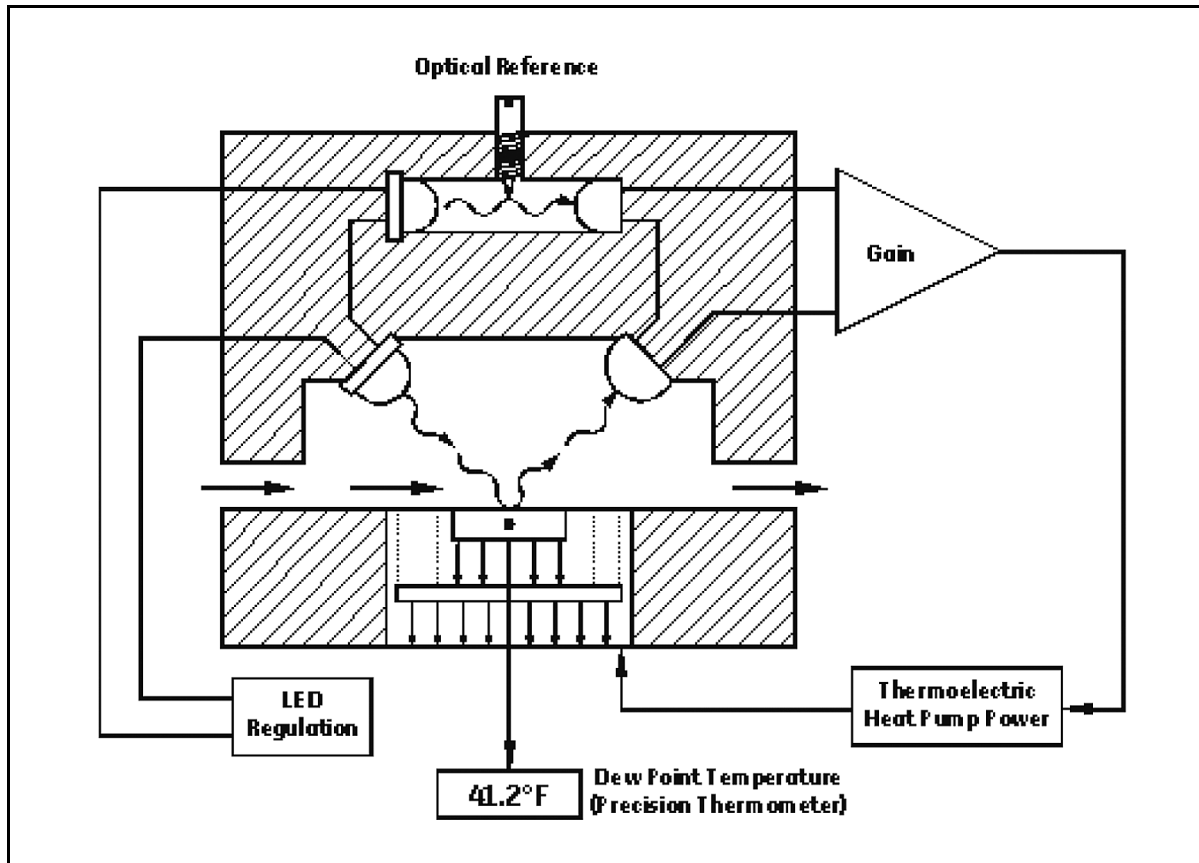

Figure 29: Chilled-Mirror Hygrometer Diagram
Figure 29 on page 62 illustrates how Panametrics hygrometers detect and measure dew point. The condensate mirror is illuminated with a solid state, infrared emitter (IR). A photodetector monitors the IR light reflected from the mirror. The photodetector is fully illuminated when the mirror is clear of dew, and it receives less light as dew forms. A separate LED and photodetector pair are used as a known reference to compensate for any thermally induced changes in the OptiSonde components. The photodetectors are arranged in an electrical bridge circuit, the output current of which is proportional to the light reflected from the mirror. The bridge output controls the electrical current to the thermoelectric cooler.